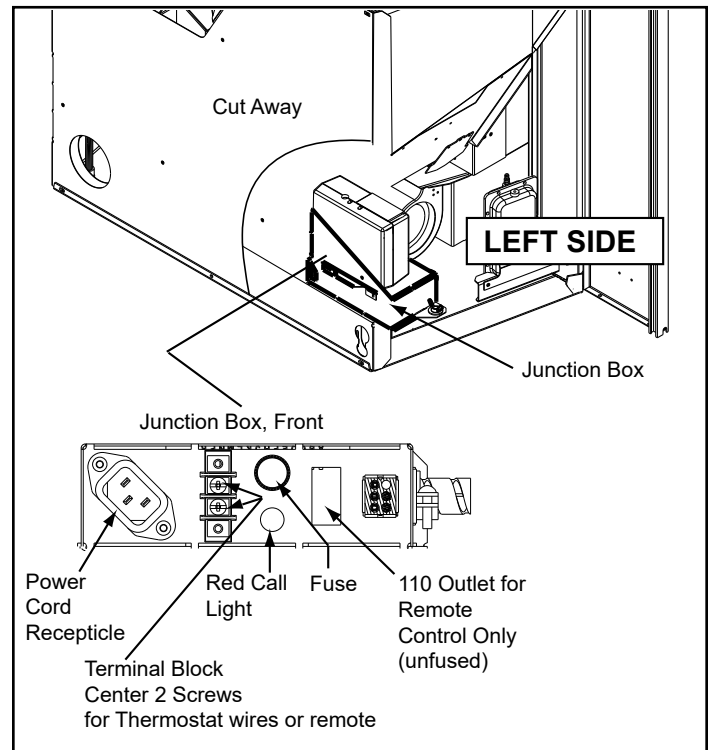

Figure 22.1
2. Connect the thermostat wire to the center two screws of the terminal block on the stove. (Figure 22.1)
There is a 4 screw terminal block located on the back lower left corner of the stove directly above the power cord inlet. The center 2 screws are for the thermostat wires (Figure 22.1).